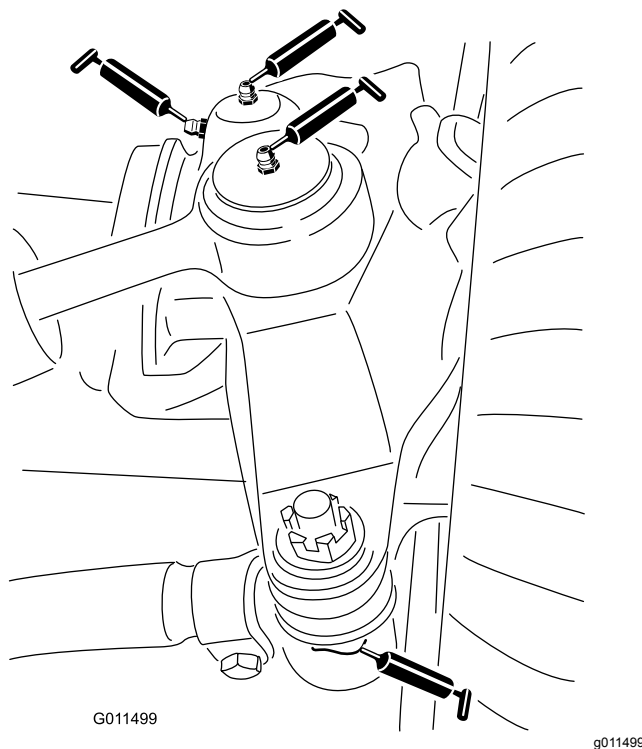

Figure 61
- 2 steering-cylinder-ball joints (Figure 61)
- 2 tie-rod-ball joints (Figure 61)
- 2 king-pin bushings (Figure 61).